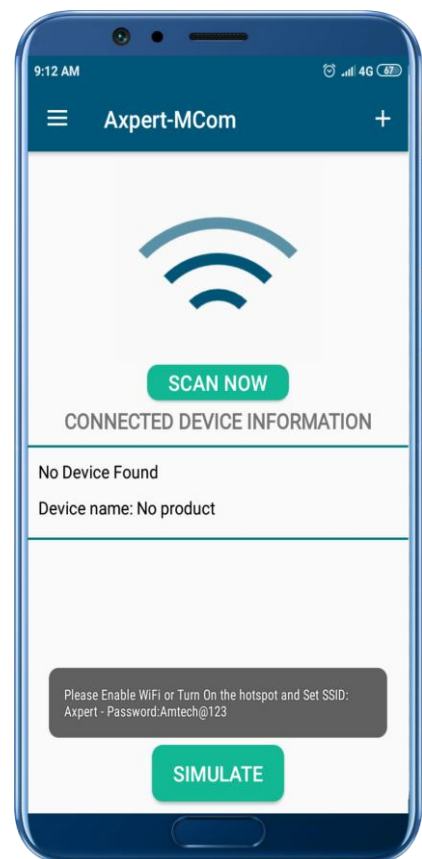

Figure 9: Warning regarding hot-spot configuration
- Connected product information will show on your dashboard. If no product is connected or you have forgotten to configure the hot-spot pop-up will display to configure the hot-spot (Figure 9).